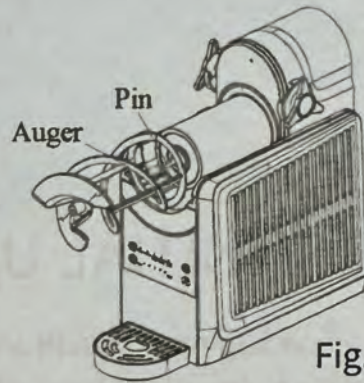

Fig.2
2. Install the auger by sliding it over the evaporator and rotating until it fits into place onto the pin (see Fig.2).